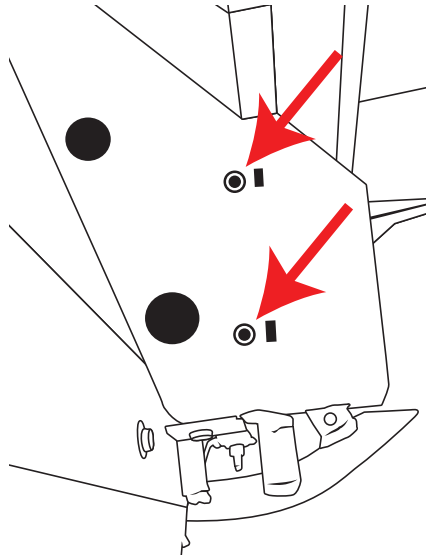

Figure 2 - Remove the (4) Push-Pins Securing the Radiator Shroud to the Bumper Cover
6. Remove the (4) push clips (2 per side) securing the radiator shroud, shown in Figure 2 (Page 4).